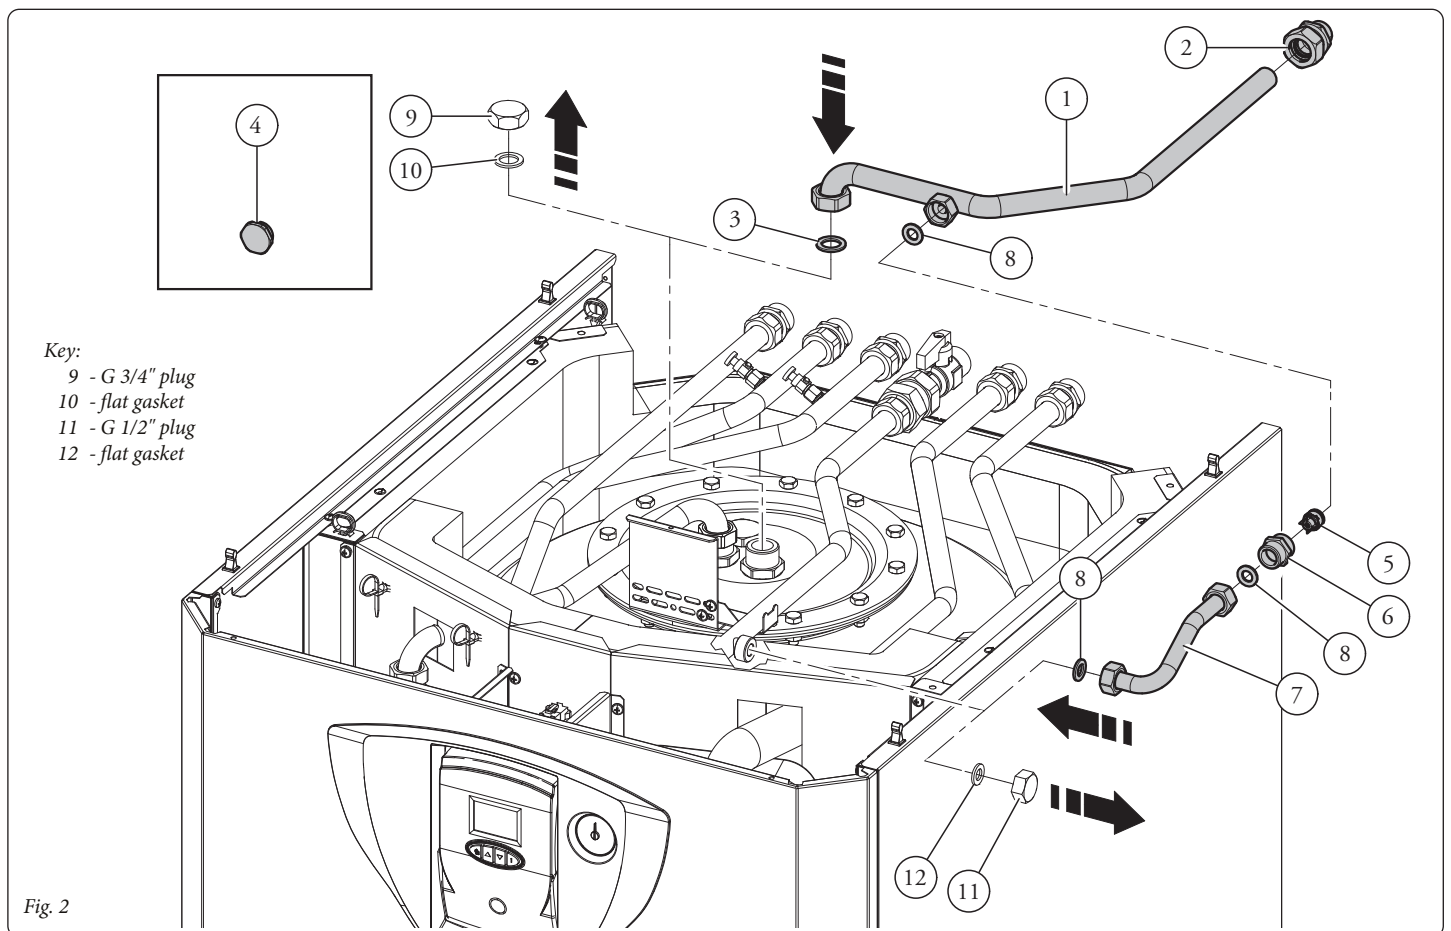

Fig. 2
- Remove the 3/4" plug (9) with its gasket (10) from the probe fitting located on the top flange of the storage tank unit.
- Remove the 1/2" plug (11) with its gasket (12).
- Connect the recirculation pipe (1) fitted with nut to the storage tank unit probe fitting, placing the flat gasket (3) included in the kit in between.
- Screw the nipples (6) onto the pipe (1) placing the non-return valve (5) in between. Connect the solar recirculation pipe (7) to the nipples (6). Make sure to place the flat gaskets (8) included in the kit in between.
- Connect the solar recirculation pipe (7) fitted with nut to the specific fitting, placing the flat gasket (8) included in the kit in between.
- Connect the recirculation pipe (1) to the DHW recirculation system by means of the 1/2" radial seal fitting (2) included in the kit.
**N.B.:** the component (fig. 2 pos. 4) is not used in this installation.